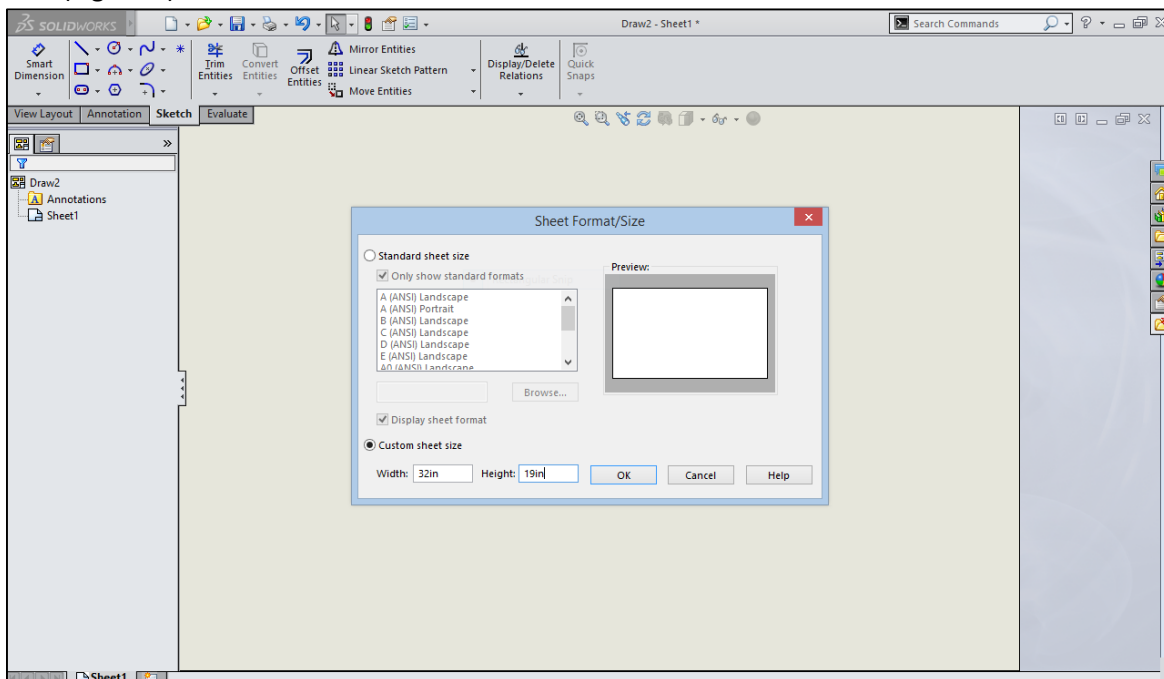

Figure 2
1. Open a new drawing from the selected part. The 'Sheet Format/Size' dialogue box will open up. Select 'Custom Sheet Size' and enter the size of the corresponding ULS platform table size (Figure 2). Click OK.